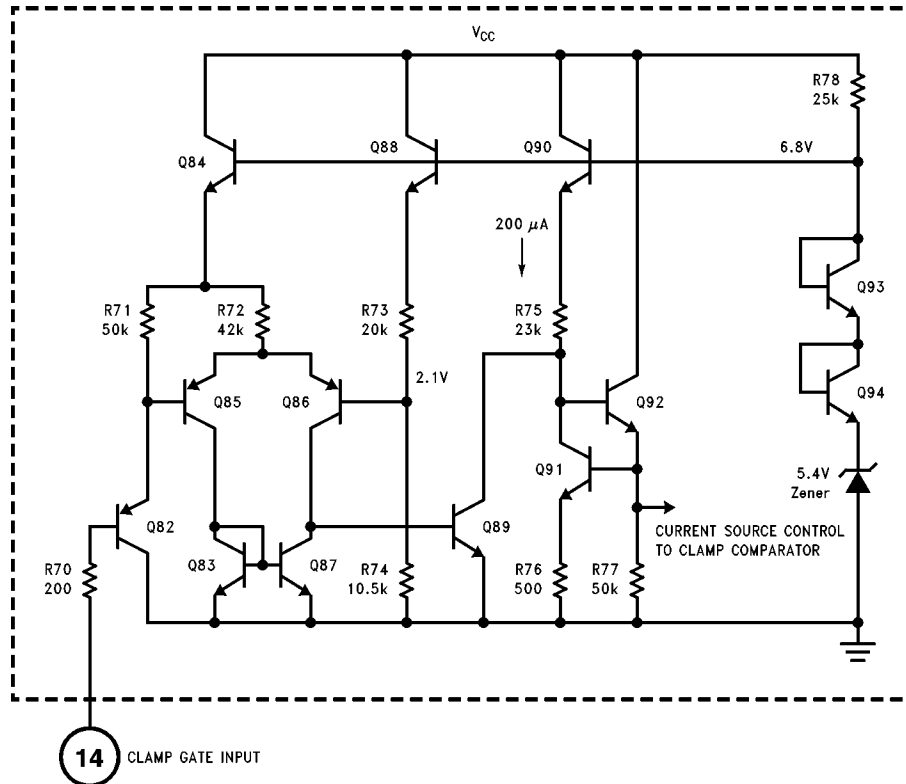
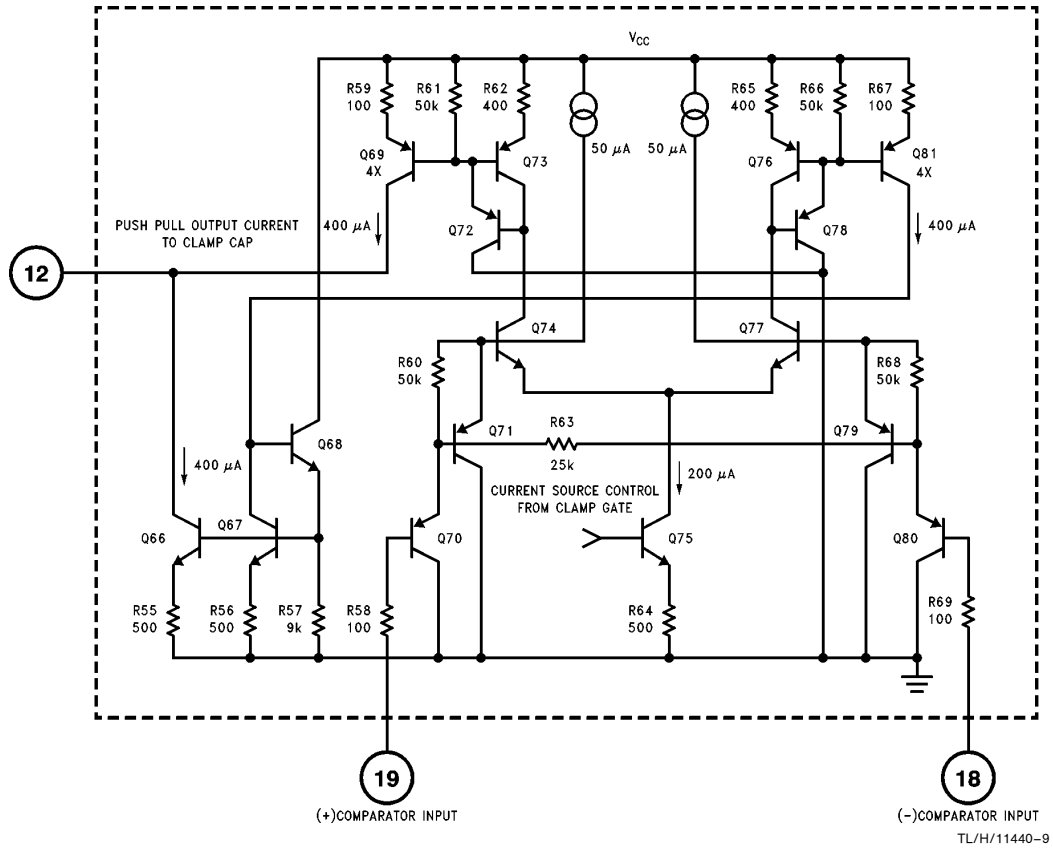

FIGURE 7. Simplified Schematic of the LM1202 Clamp Gate Circuit
FIGURE 8. Simplified Schematic of the LM1202 Clamp Comparator Circuit
*Figures 7* and *8* show simplified schematics of the clamp gate and clamp comparator circuits. The clamp gate circuit (*Figure 7*) consists of a PNP input buffer transistor (Q82), a PNP emitter coupled pair (Q85 and Q86) referenced on one side to 2.1V and an output switch transistor Q89. When the clamp gate input at pin 14 is high ( $> 1.5V$ ) the Q89 switch is on and shunts the 200  $\mu A$  current from current source Q90 to ground. When pin 14 is low ( $< 1.3V$ ) the Q89 switch is off and the 200  $\mu A$  current is mirrored by the current mirror comprised of Q91 and Q75 (see *Figure 8*). Consequently the clamp comparator comprised of the differential pair Q74 and Q77 is enabled. The input of the clamp comparator is similar to the clamp gate except that an NPN emitter coupled pair is used to control the current that will charge or discharge the clamp capacitor externally connected from pin 12 to ground. PNP transistors are used at the inputs because they offer a number of advantages over NPNs. PNP's will operate with base voltages at or near ground and will usually have a greater emitter base breakdown voltage ( $BV_{ebo}$ ). Because the differential input voltage to the clamp comparator during the video scan period could be greater than the  $BV_{ebo}$  of NPN transistors, a resistor (R63) with a value one half that of R60 or R68 is connected between the bases of Q71 and Q79. The clamp comparator's common mode range is from ground to approximately 9V and the maximum differential input voltage is  $V_{CC}$ .